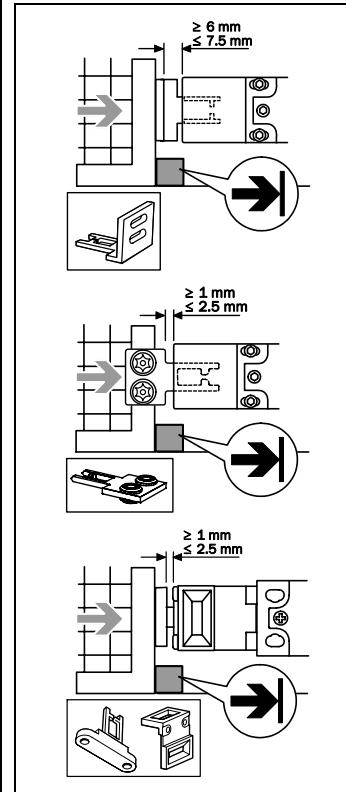

Fig. 2: Mounting of actuator and safety switch
- ⚠ Safety switches and actuators must not be used as a mechanical stop, see Fig. 2.
- Fit an additional stop for moving parts of the guard (see Fig. 2).
- Pay attention to the actuator insertion depth (see Fig. 2).